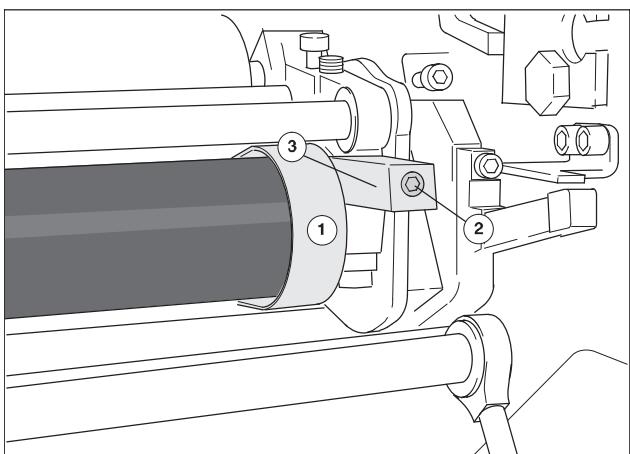

Fig. 38 Removing the splash protection plate from D.S.
The splash protection plates in front of the metering roller (Fig. 38/1) on D.S. and O.S. must be checked weekly and cleaned of contamination.
3. Completely unscrew the Allen screw (Fig. 38/2) with the operator tool. The Allen screw remains in the support (Fig. 38/3) of the splash protection plate.
4. Swivel the splash protection plate (Fig. 38/1) downwards and pull out at the support (Fig. 38/3).